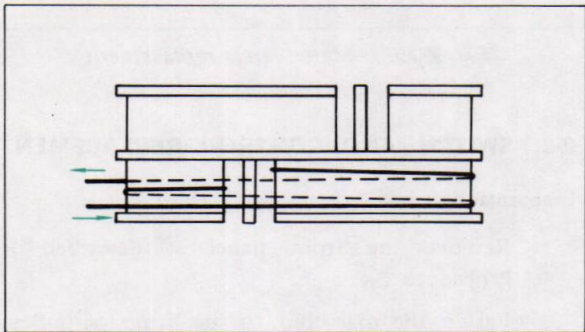

Fig. 2-9. Wrapping the dial cord
2. Run the cord through the slot in the rim of the drum and wrap a clockwise turn in the inner side groove. See Fig. 2-9.
4. Run the cord over pulleys "B", "C" and "D" then wrap one clockwise turn around the drum from outer groove to inner groove as shown in Fig. 2-9.